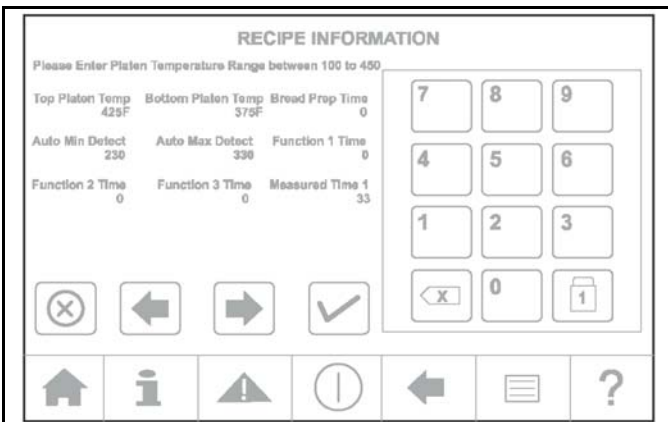

Figure-73
- **Top Platen Temp**–Current loaded product platen cooking temperature setpoint. See Figure-73.